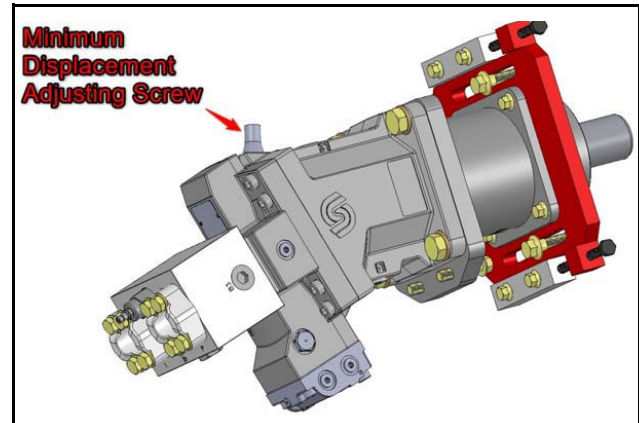

Figure 34
2. The minimum displacement screw setting limits the motor maximum speed [Figure 34].